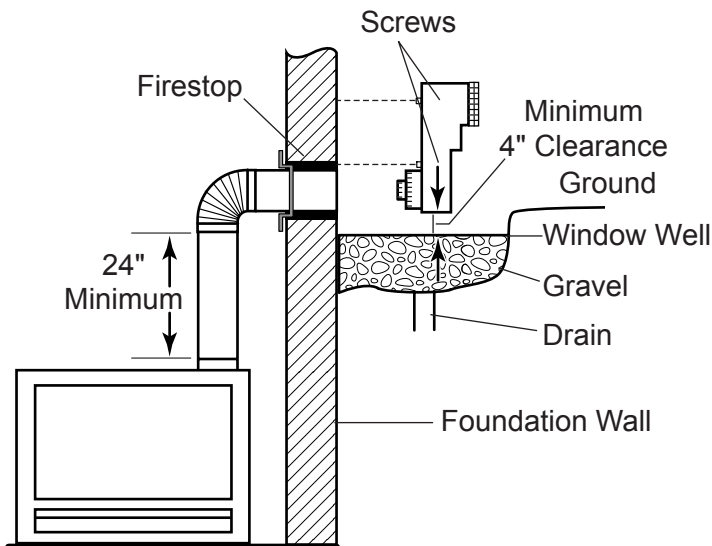

Figure 31 - Below Grade Installation
2. Remove soil to a depth of approximately 16" below base of snorkel. Install drain pipe. Install window well (not supplied). Refill hole with 12" of coarse gravel leaving a clearance of approximately 4" below snorkel. *See Figure 31.*
6. Level the soil so as to maintain a 4" clearance below snorkel. *See Figure 31.*